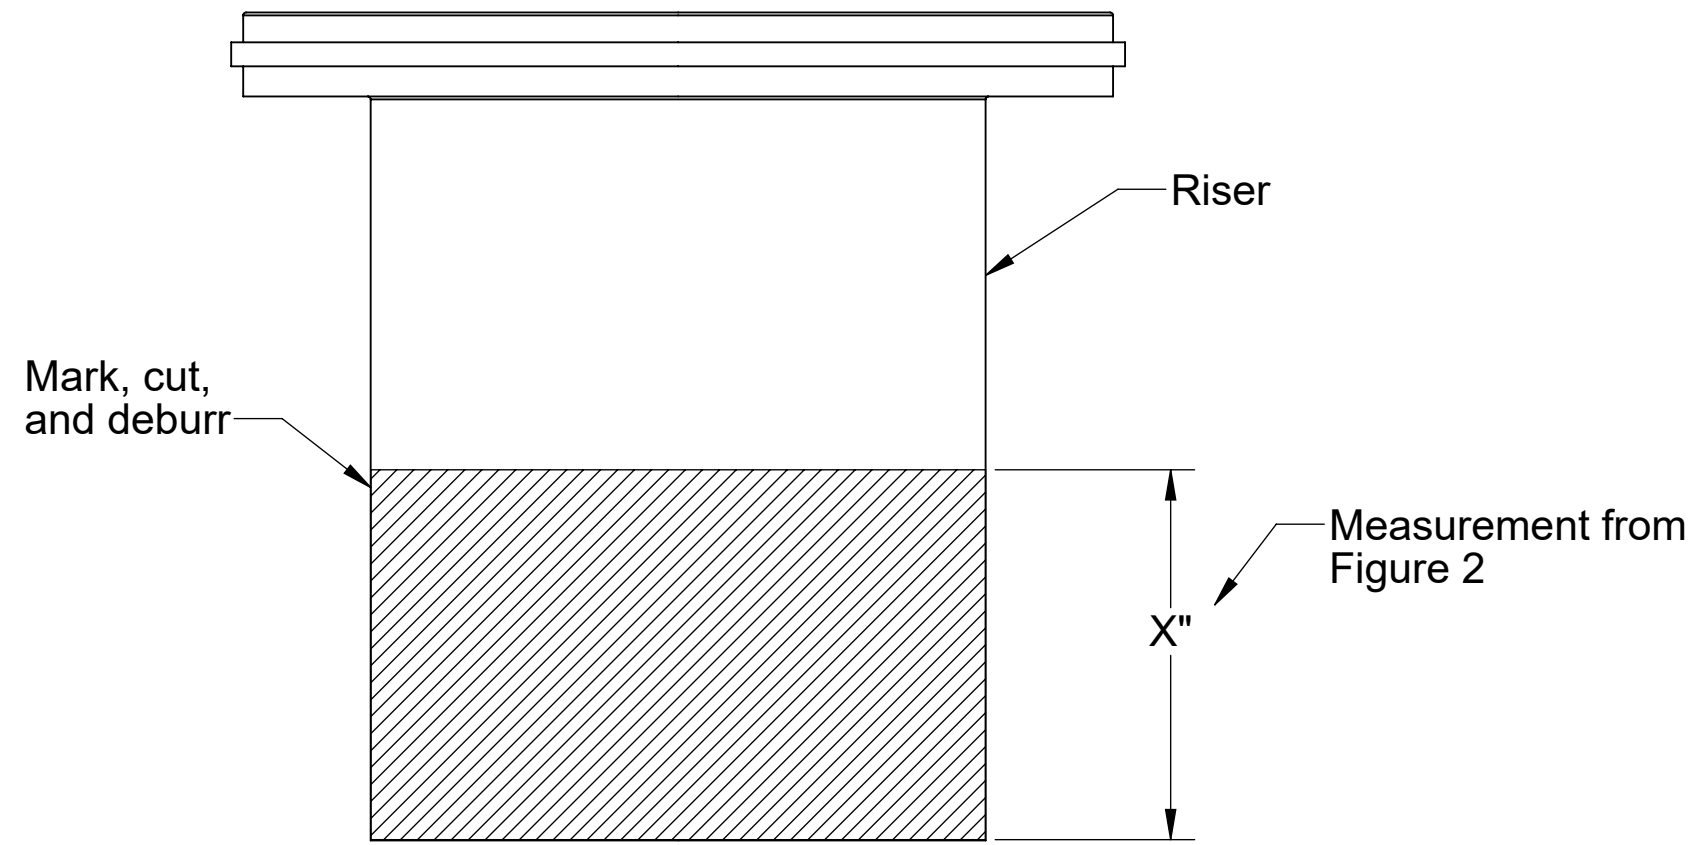

Figure 3
- Whether the riser needs to be cut or not, make another mark with the silver marker on the sidewall of the riser a distance of 4 INCHES (3 INCHES for a LB-35 w/ 4" connections) above the edge just cut. If you did not make a cut (meaning your riser height + dimension from step 5 line was beyond the bottom edge of your riser), still mark the sidewall of the riser 4 INCHES above where your riser height + dimension from step 5 line would have been. DO NOT cut this new line. Once the riser is installed into the main unit, this new line will end up at the top of the gasket and will aid in re-assembly. See Figure 3.
- Remove the riser from the ring. Take the measurement from step 5 from the BOTTOM of the riser upwards towards the top of the riser. Mark a line around the riser, and cut with a handsaw, jig saw, or reciprocating saw. Remove the debris from the cut edge with a scraper, utility knife, or gloves. See Figure 3.